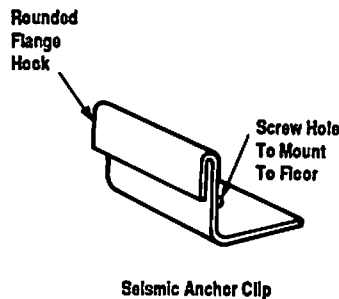
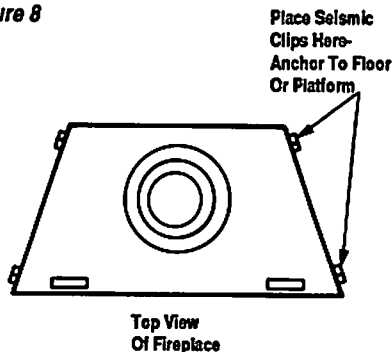

Figure 8
Figure 9
Step 4. Fireplace may be anchored to floor. Figure 8 illustrates the seismic anchor clips provided with the fireplace. Figure 9 illustrates the proper installation technique.